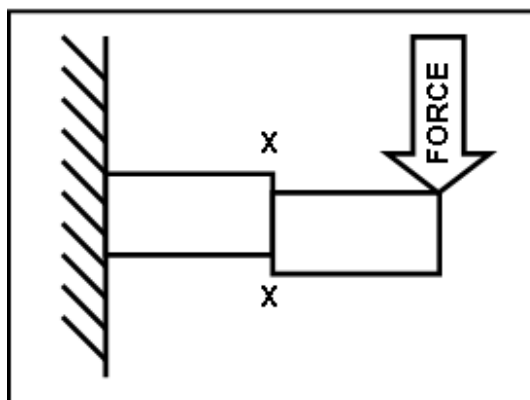

FIGURE 4.7
4.7 What does FIGURE 4.7 below represent regarding points **X-X**?